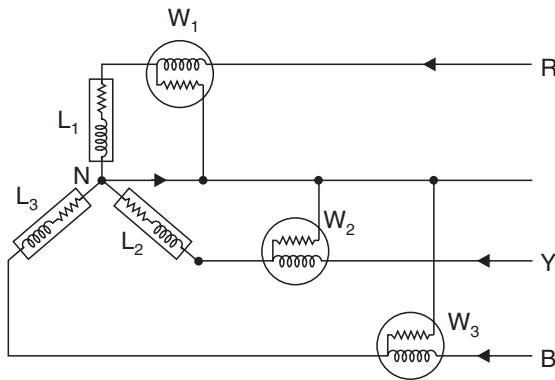
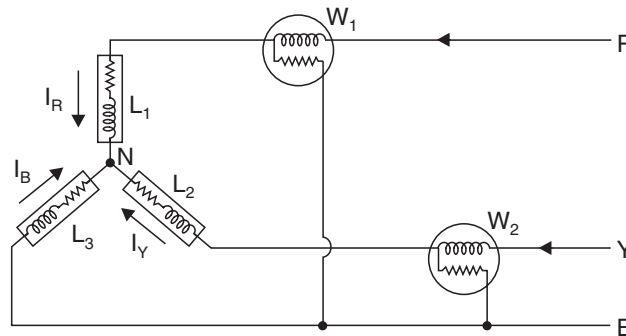
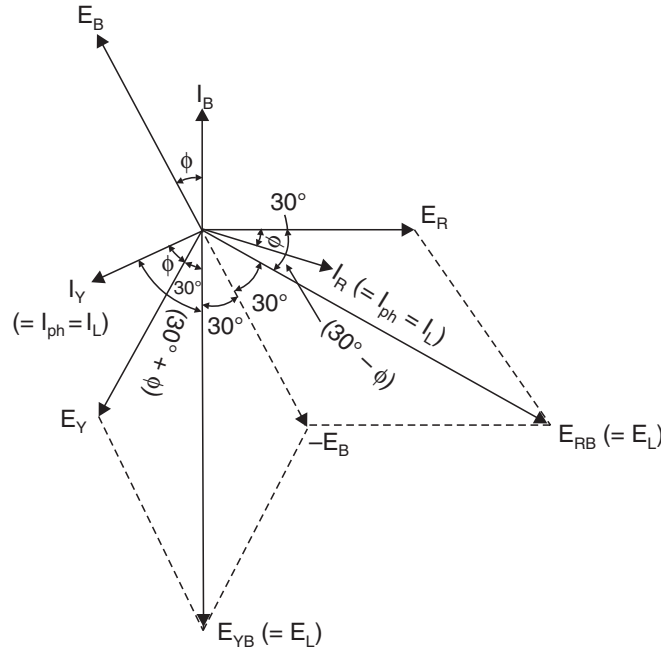

Fig. 20. Star-connected load.
Fig. 22. Star-connected load.
Fig. 24. Vector diagram—two wattmeters method.
Figs. 20 and 21 show the connection diagram for star-connected and delta-connected loads respectively. As indicated in the figures three wattmeters are connected in each of the three phases of the load whether star or delta connected. The current coil of each wattmeter carries the current of one phase only and the pressure coil measures the phase-voltage of the phase. Hence, *each wattmeter measures the power in a single phase. The total power in the load is given by the algebraic sum of the readings of the three wattmeters.*
- In case of star-connected load it is not always possible to get at neutral point which is required for connections (Fig. 20).
Balanced or unbalanced load, Figs. 22 and 23 show connection diagrams for star-connected and delta-connected loads respectively. In this method the current coils of the two wattmeters are inserted in *any two* lines and the pressure (or potential) coil of each joined to the *third line*.
Two-Wattmeter Method—Balanced load. The total power consumed by a *balanced load* can be found by using two wattmeters (Figs. 22 and 23). When load is assumed inductive in Fig. 20, the vector diagram for such a balanced star-connected load is shown in Fig. 24.
Refer Fig. 24.
The value of E_{RB} is found by compounding E_R and E_B reversed as shown in Fig. 24. It may be observed that phase difference between E_{RB} and $I_R = (30^\circ - \phi)$.
The value of E_{YB} is found by compounding E_Y and E_B reversed as shown in Fig. 24. The phase difference between E_{YB} and $I_Y = (30^\circ + \phi)$.